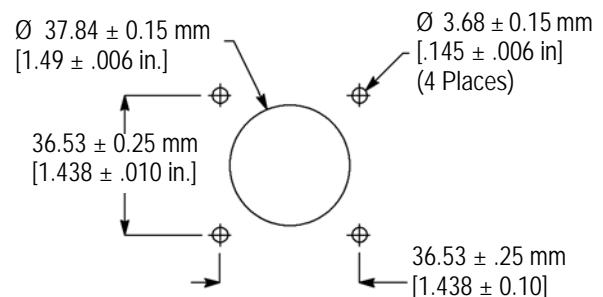

Figure 3
3. Cut the panel using the dimensions provided in Figure 3.